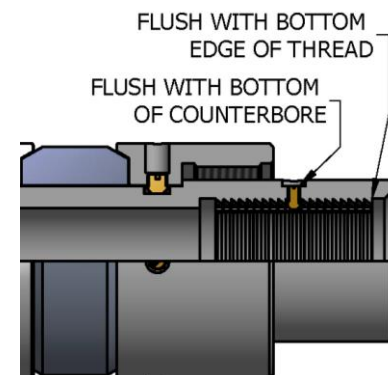

Fig. 7
K-2.2) Thread ratchet ring (3) into rubber mandrel (11) until flush with bottom edge of rubber mandrel (11) thread (Fig. 7).
**NOTE4:** Threads on ratchet ring (3) are directional - it **MUST** be in installed in correct direction for tool to work properly.
K-2.4) Screw shear screw (1) into rubber mandrel (11). Tighten until shear screw is flush with bottom of counter bore of threaded hole in rubber mandrel (11) (Fig. 7).